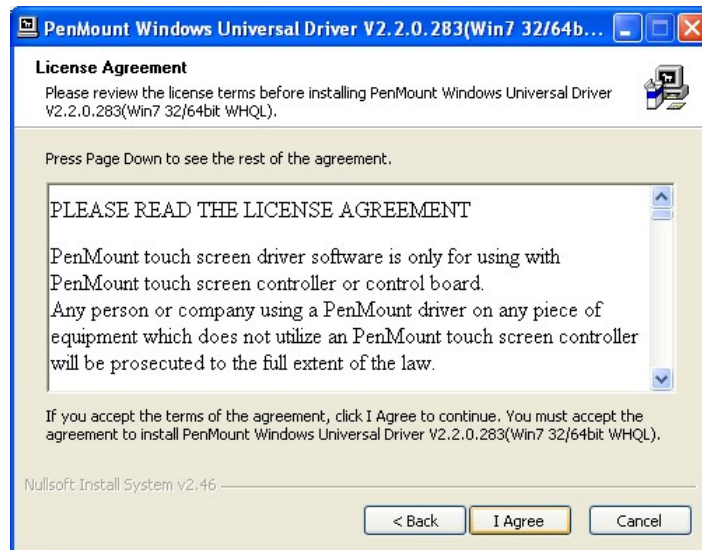

Figure 5-3: License Agreement
**Step 7:** The license agreement in **Figure 5-3** appears. Accept the terms of the agreement by clicking **I Agree**.